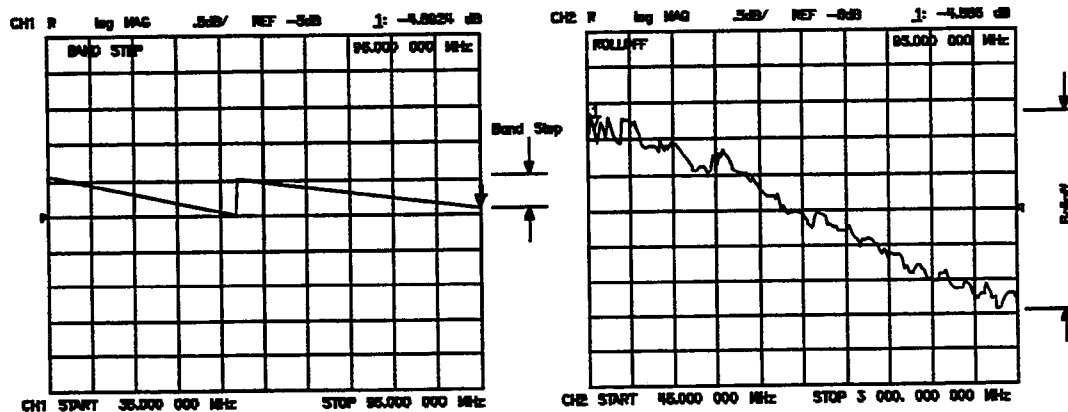

Figure 16. Band Step Size and Sampler Rolloff
Sampler rolloff = 1.5 to 3.5 dB (as shown in Figure 16):
6. Turn on the analyzer and press **[RECALL] [REG1]**. Adjust the potentiometer shown in Figure 16 to meet the criteria of step 3. When reassembling the instrument, make sure the four sampler board cover screws are reinstalled tight enough (very tight) to prevent leakage and cross-talk.